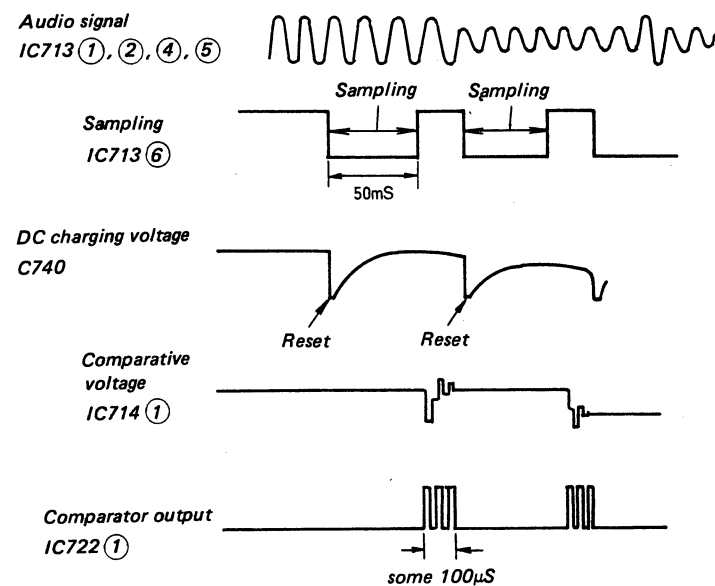
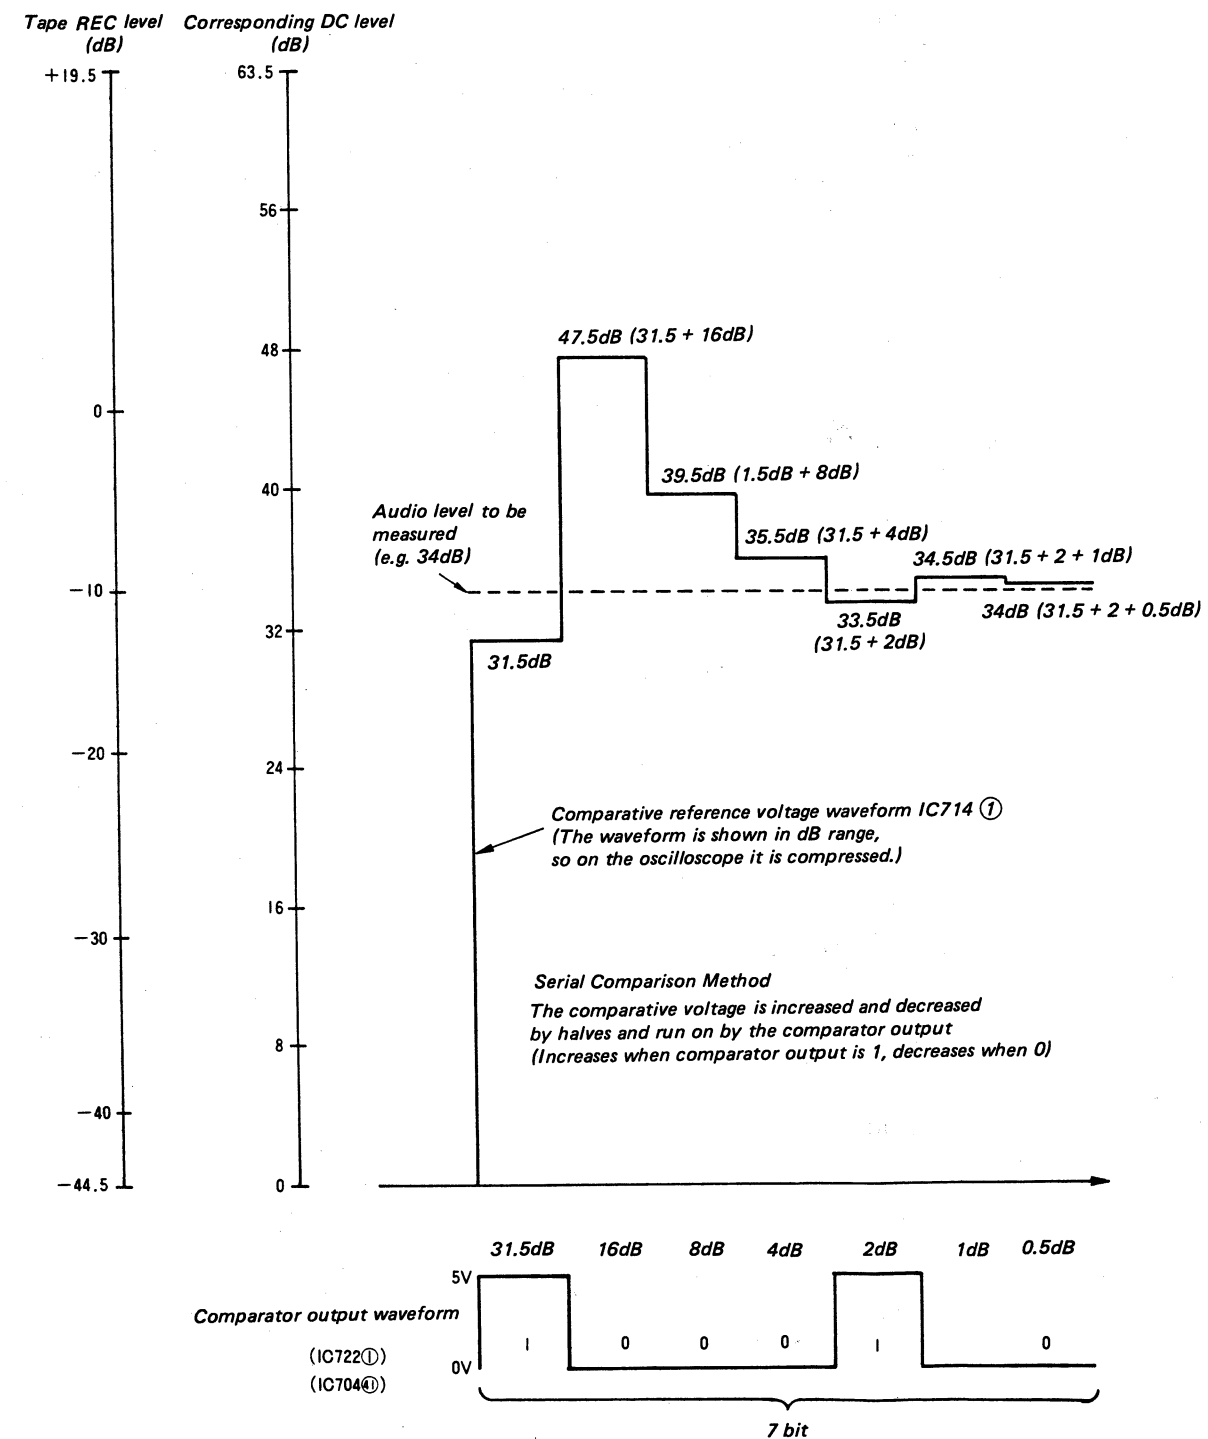

Fig. 16
Fig. 17
As in Fig. 16, among the signals applied to IC713 output, the source signal or tape signal L or R is selected by IC704 (micon) and when IC713 pin ⑥ is low, outputs from pin ③. The signal from pin ③ passes through the circuits, inputs to IC714 pin ⑤, and the audio signal is rectified. This rectified voltage is charged to C740 and is simultaneously applied to IC722 pin ③. The voltage of IC722 ③ and ② are compared. The voltage applied to ② results from a combination of from 0.5dB to 32dB resulting from signals output from IC704 ⑨ - ⑫, ⑫ - ⑫. First 31.5dB voltage is applied to ②. (turns on Q738) The voltages of ② and ③ are compared, and if the result is that voltage on ③ is higher, IC722 ① goes high, and this is applied to IC704 pin ④. Next, 16dB is applied to the 31.5dB voltage above, and the resulting 47.5dB is applied to pin ②. Then it is compared to voltage at pin ③ and that result is applied to IC704 pin ④. In this way the successive comparisons are made, ending with 0.5dB, and the microcomputer reads the audio signal level as dB value (digital data). (Serial comparison method, shown in Fig. 17.)
As in Fig. 16, among the signals applied to IC713 output, the source signal or tape signal L or R is selected by IC704 (micon) and when IC713 pin ⑥ is low, outputs from pin ③ . The signal from pin ③ passes through the circuits, inputs to IC714 pin ⑤ , and the audio signal is rectified. This rectified voltage is charged to C740 and is simultaneously applied to IC722 pin ③ . The voltage of IC722 ③ and ② are compared. The voltage applied to ② results from a combination of from 0.5dB to 32dB resulting from signals output from IC704 ⑨ - ⑫ , ⑫ - ⑫ . First 31.5dB voltage is applied to ② . (turns on Q738) The voltages of ② and ③ are compared, and if the result is that voltage on ③ is higher, IC722 ① goes high, and this is applied to IC704 pin ④ . Next, 16dB is applied to the 31.5dB voltage above, and the resulting 47.5dB is applied to pin ② . Then it is compared to voltage at pin ③ and that result is applied to IC704 pin ④ . In this way the successive comparisons are made, ending with 0.5dB, and the microcomputer reads the audio signal level as dB value (digital data). (Serial comparison method, shown in Fig. 17.)